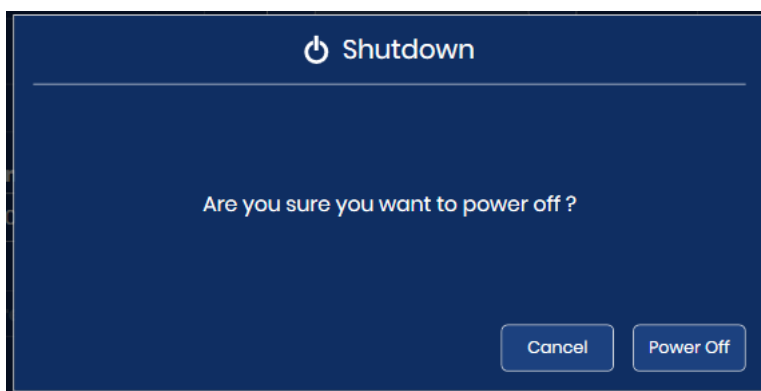

Figure 4-25 Confirm Shutdown
- Select **Power Off** on the confirmation screen to continue with shutdown. (See Figure 4-25).